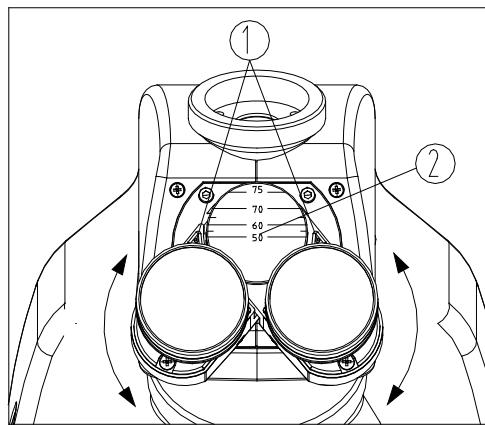

Fig. 10
2. Where “.” ① on the eyepiece tube lines up with the scale ②, then that is the number for the interpupillary distance. Range : 50~75mm. (Fig. 10).